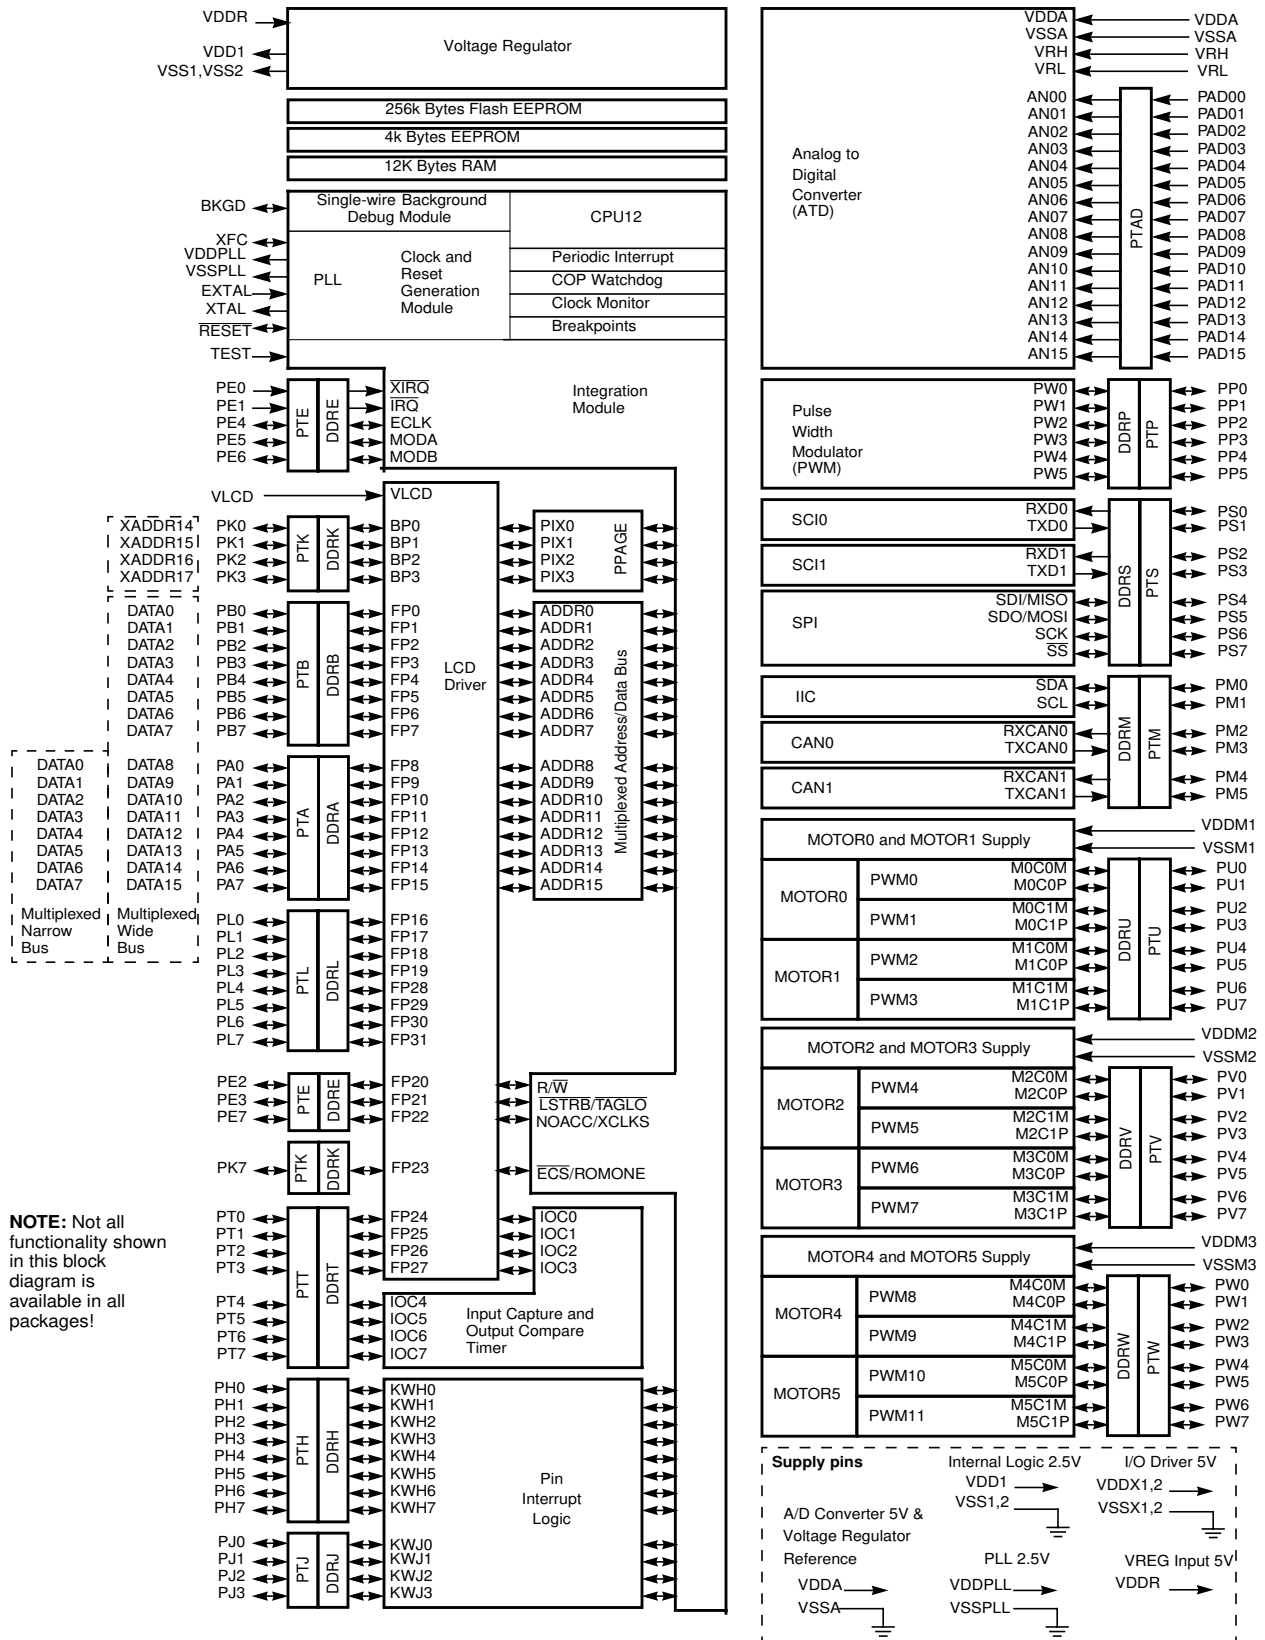

Figure 1-1 MC9S12H256 Block Diagram
**Figure 1-1** is a block diagram of the MC9S12H256 device.